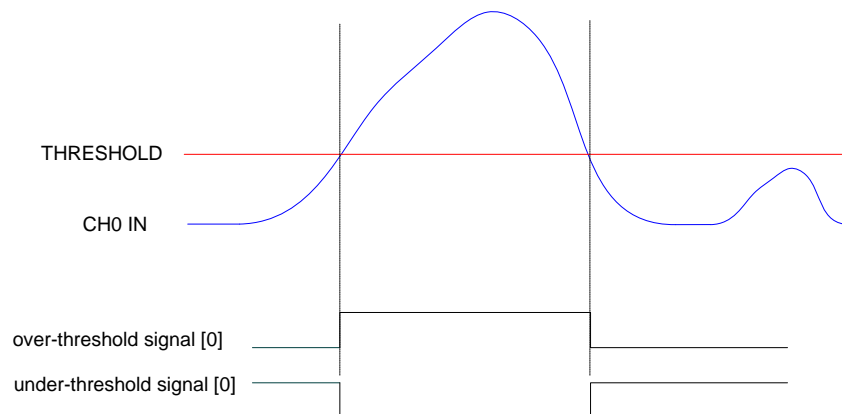

Fig. 9.14: Channel over/under threshold signal
- an *over/under-threshold signal* (see **Fig. 9.14**). This signal can be programmed to be active (i.e. "1") as long as the input pulse is over the threshold or under the threshold (depending on the trigger polarity bit at register address 0x8000).